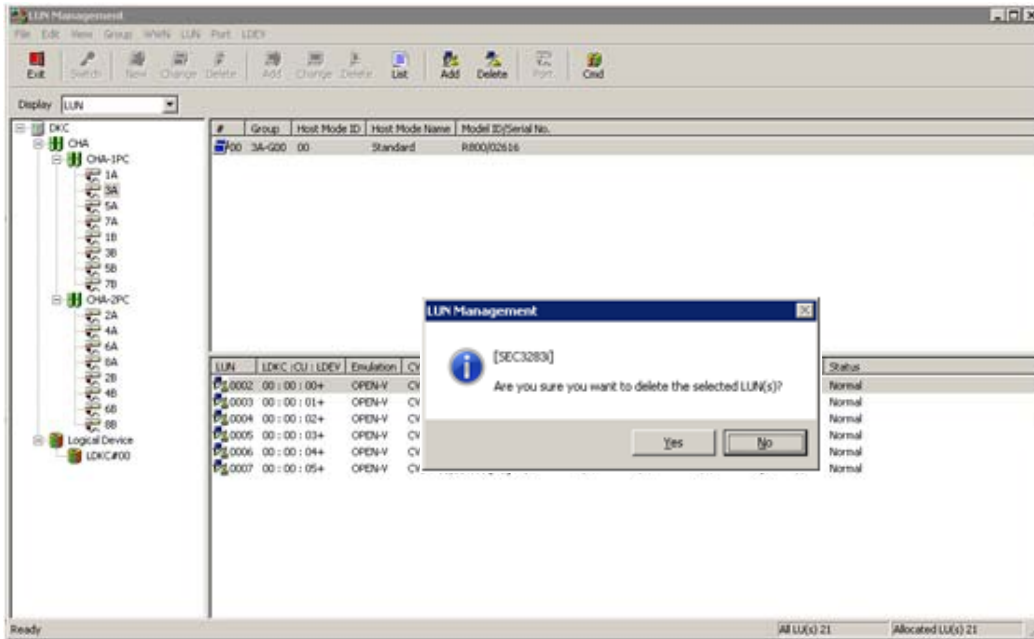

Figure 5.3.1.4-5-3 Main Window
- ① Select (CL) a LUN from the upper right list.
- ② Select (DR) [Delete] from the [LUN] menu in the Main window (Figure 5.3.1.4-5-3).
- ③ Since a message asking for a confirmation is displayed, select (CL) the [Yes] button.
- ④ Information on the LUN that has been selected from the lower right list is deleted.